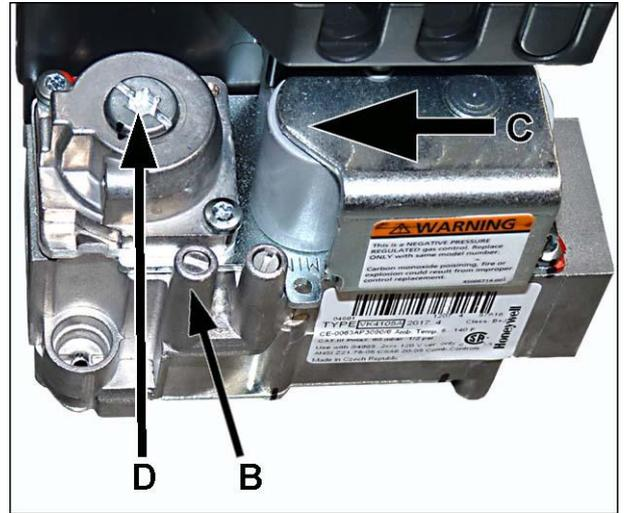

Fig. 6.2
#### Gas output pressure control (Fig. 6.2)
**BE SURE TO TIGHTEN THE PRESSURE OUTLET SCREW (B/Fig. 6.2).**